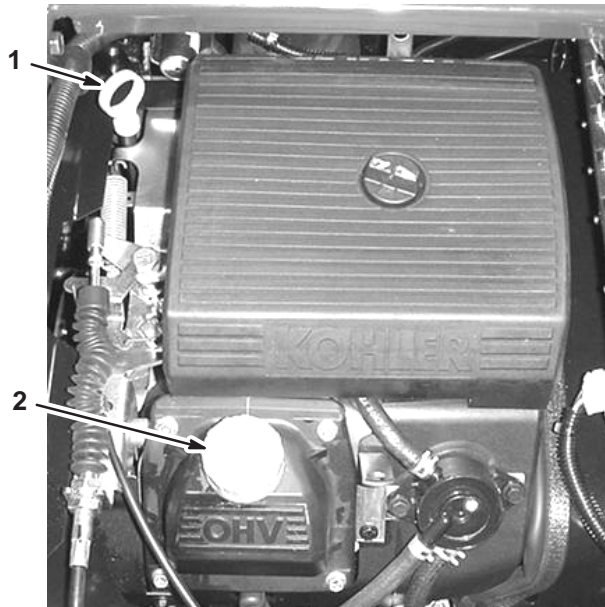

Figure 6
2. Remove the dipstick and wipe it with a clean rag (Fig. 6). Insert the dipstick into the tube and make sure it is seated fully. Remove the dipstick and check the oil level.
3. If the oil level is low, remove the filler cap from the valve cover (Fig. 6) and pour oil into the opening until the oil level is up to the Full mark on the dipstick; refer to Servicing Engine Oil, page 30, for the proper oil type and viscosity. Add the oil slowly and check the level often during this process. **Do not overfill.**